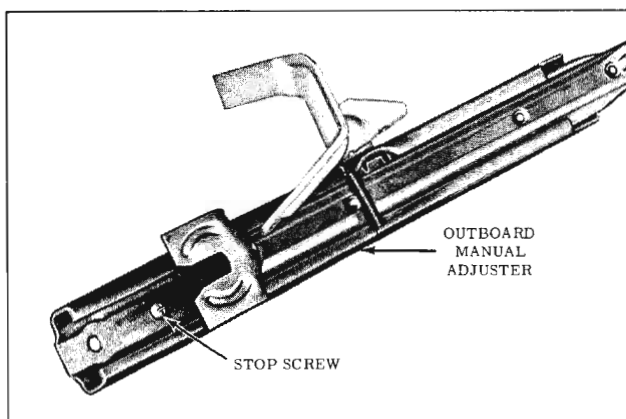

Fig. 16-317 Repositioning Front Seat
4. Operate outboard adjuster lower track rearward sufficiently to install stop screw at front of adjuster upper track. (Fig. 16-317)